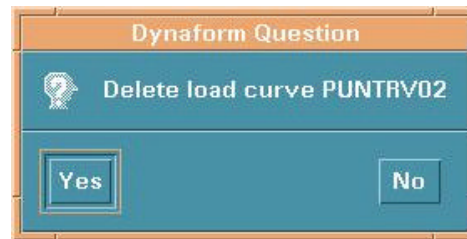

Figure 10.9.4 Delete Curve Question
- A DYNAFORM Question window appears, see Figure 10.9.4.